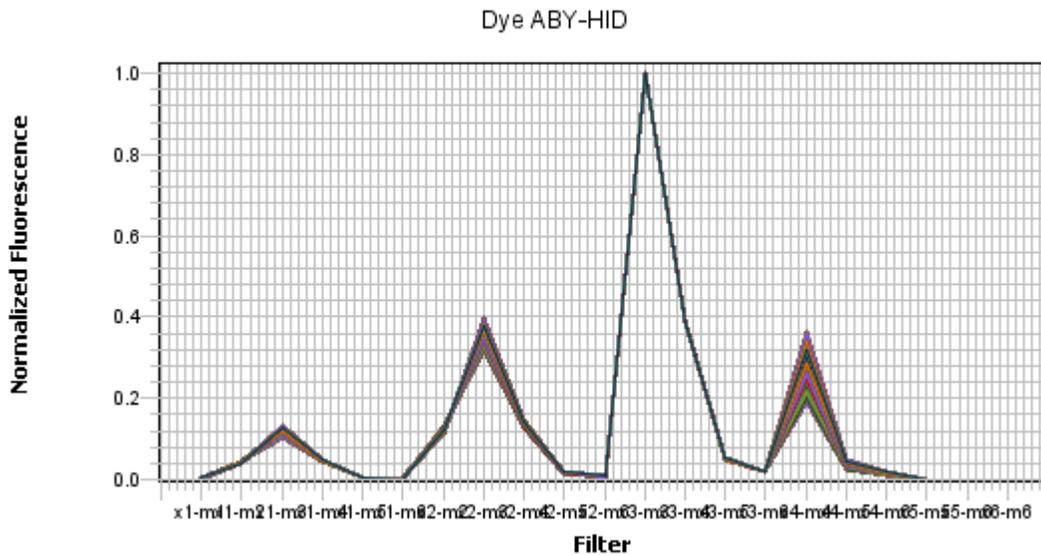
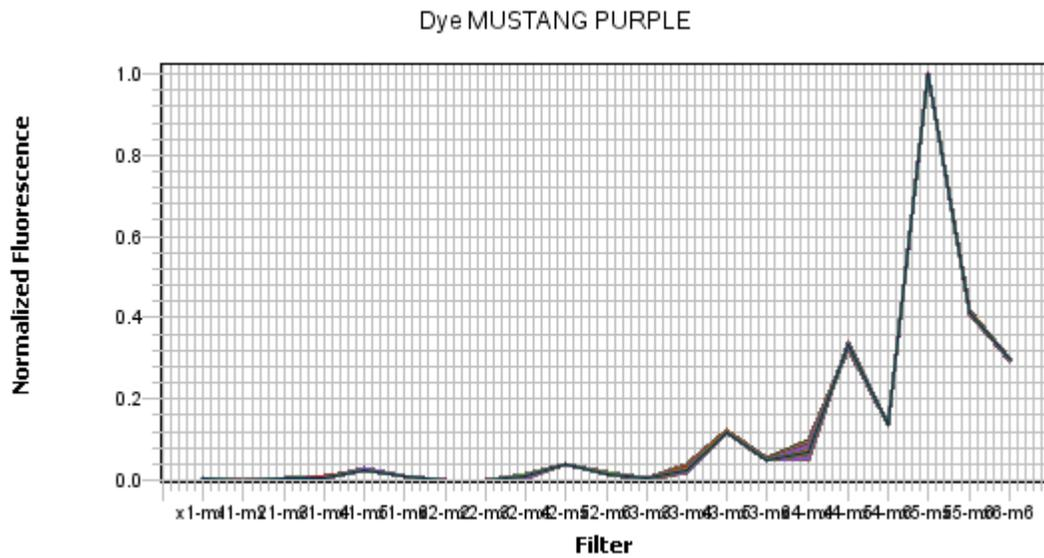

Figure 34 ABY™ dye spectra
Figure 36 MUSTANG PURPLE™ (MP) dye spectra
Figure 34 through Figure 36 show the calibration spectra for ABY™, JUN™, and MUSTANG PURPLE™ (MP) dyes.